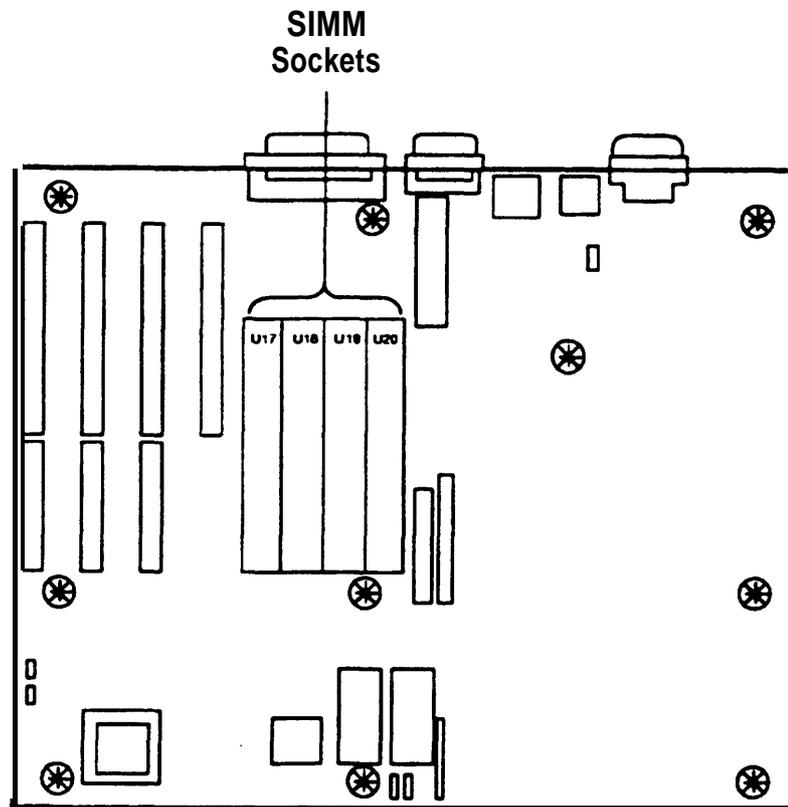

Figure 2-16. Location of Memory (SIMM) Sockets on the 6386/SX WGS
1. Locate the empty SIMM sockets for the processor that you are working on, as shown in Figures 2-16, 2-17, 2-18, or 2-19.